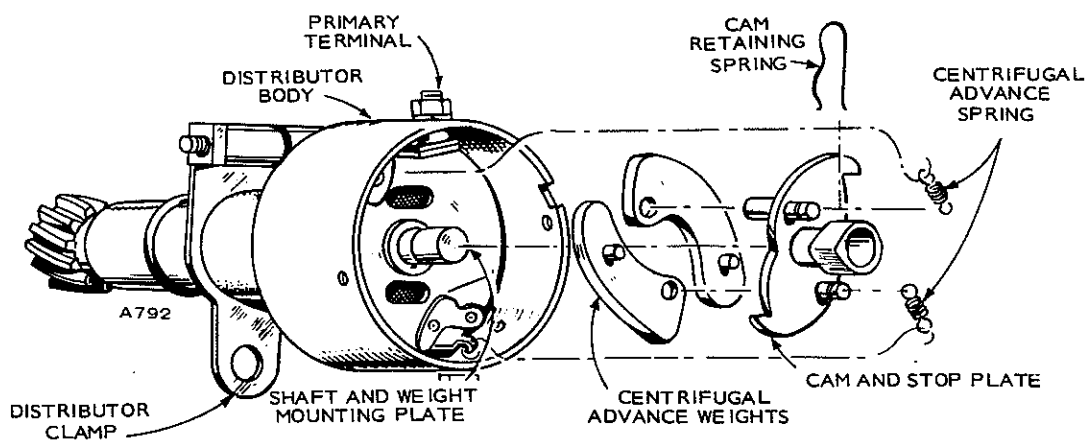

FIGURE 10-58. DISTRIBUTOR DISASSEMBLY
6. Remove spring clip (cam retaining spring) holding cam to drive shaft and lift out cam. The weights are now free and can be lifted out, Figure 10-58.
7. Check tension of breaker spring with a spring scale hooked on arm at contact and held at right angles to contact surfaces, Figure 10-58. Tension should be 17 to 20 ounces. Adjust it by loosening screw holding end of contact spring and installing spacing washers or sliding end of spring in or out.